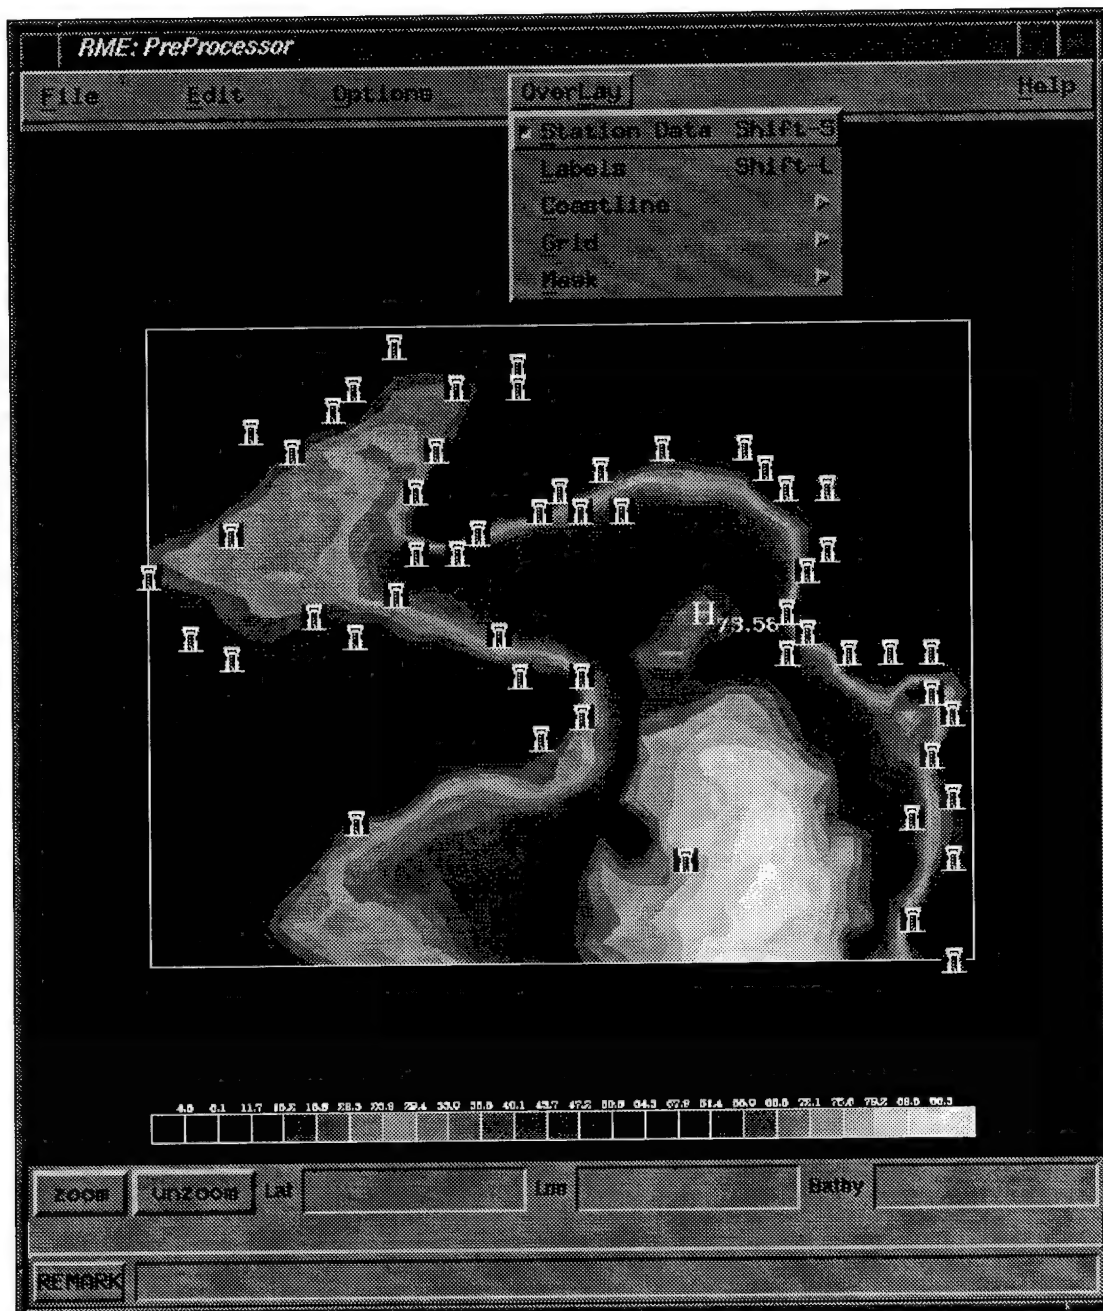

Figure 17 – Overlaying stations in the Pre-Processing GUI
**Station Data** - Overlaying the station data displays the stations available for assimilation during the model run in this domain (Figure 17). The stations on land and sea are represented by different icons.